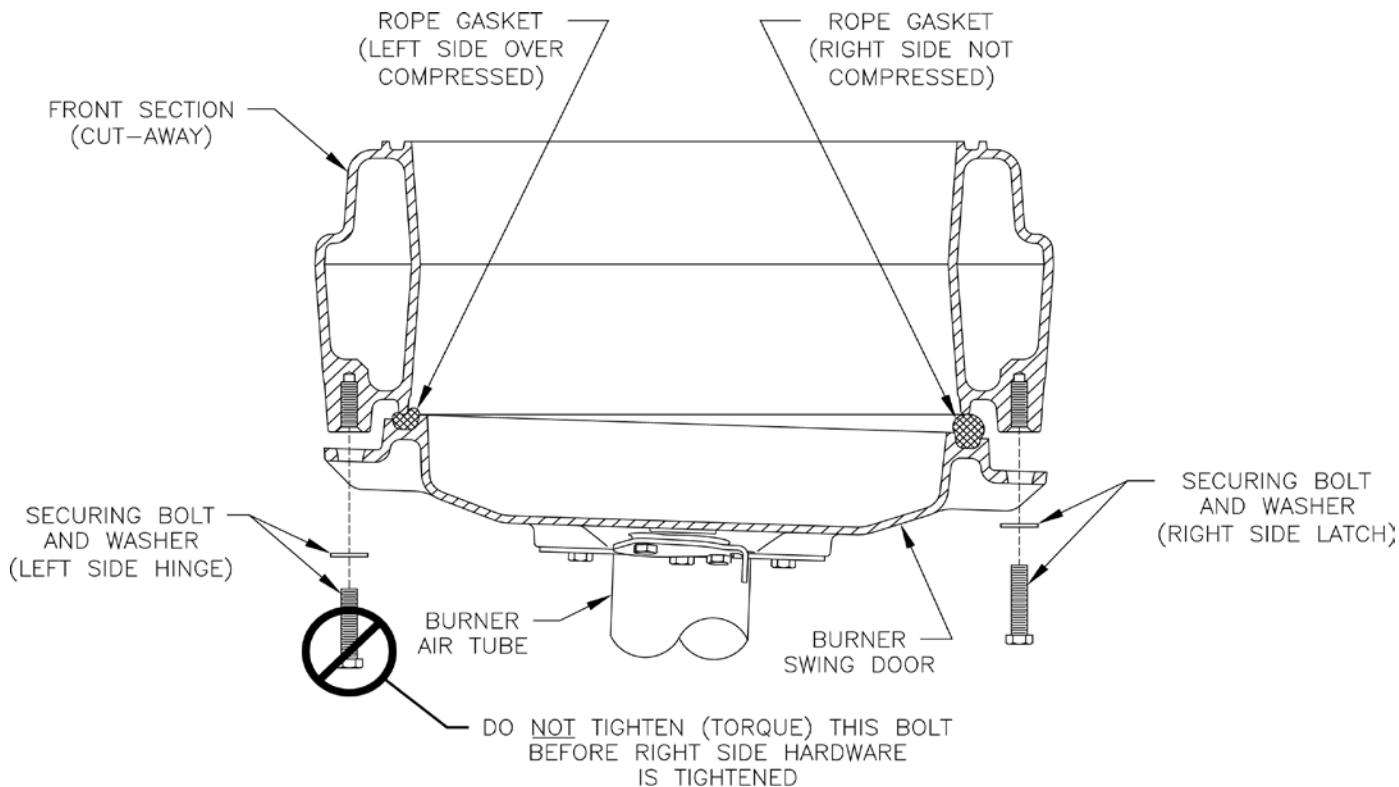

Figure 5C: Top View - Burner Swing Door Fully Closed but Not Properly Secured or Sealed
- e. Failure to follow the prescribed procedure could cause thread damage to casting and /or leak at the door seal. **IF LEFT SIDE TAP BOLT IS TIGHTENED BEFORE RIGHT SIDE TAP BOLT, RIGHT SIDE OF THE DOOR CAN NOT BE DRAWN-IN TO PROVIDE AN AIR-TIGHT SEAL,** as shown in Figure 5C. Applying excessive torque will only cause thread damage.